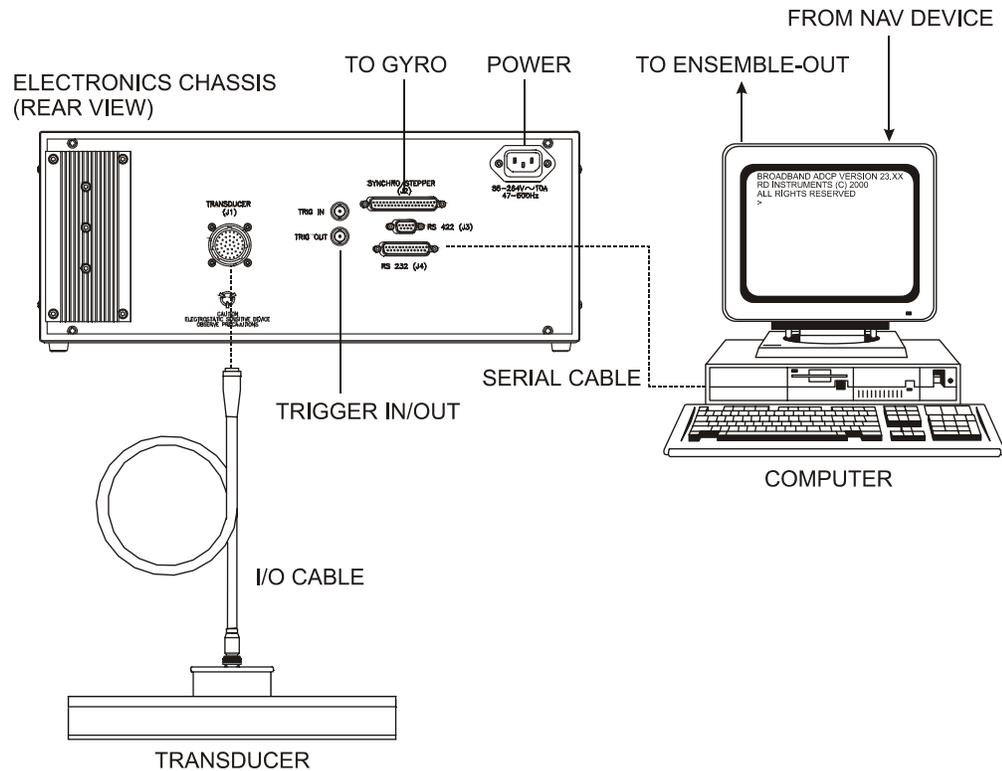

Figure 2. Ocean Surveyor/Observer Connections
Use Figure 2, page 8 to connect the Ocean Surveyor/Observer to a computer for a bench test. Read and follow the cautions listed below *before* applying power to the Ocean Surveyor/Observer.
- a. Connect and power up the ADCP as shown in Figure 2, page 7.